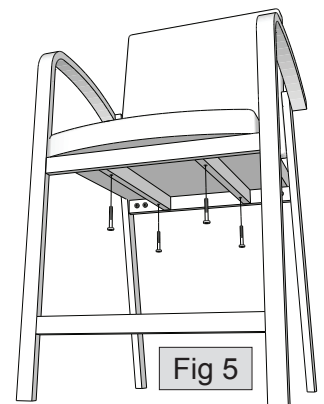

Fig 5
7. Attach seat cushion to H-frame using 2  $\frac{3}{8}$ " Allen bolts, as shown in figure 5. Once all 4 bolts are started, tighten all securely.